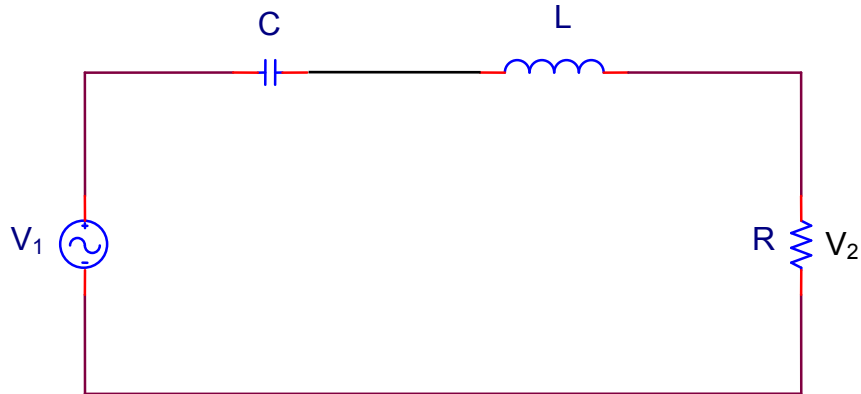

Figure 11.3
4. Repeat 1-3 for the circuit of Figure 11.3 with $R = 5.1\text{k}\Omega$ and $C = 0.01\mu\text{F}$.
- a. Derive an expression for $H(j\omega) = v_2(j\omega) / v_1(j\omega)$ for the circuit of Figure 11.3.
1. a. Construct the circuit of Figure 11.3 with $R = 5.1\text{k}\Omega$, $L = 68\text{mH}$,